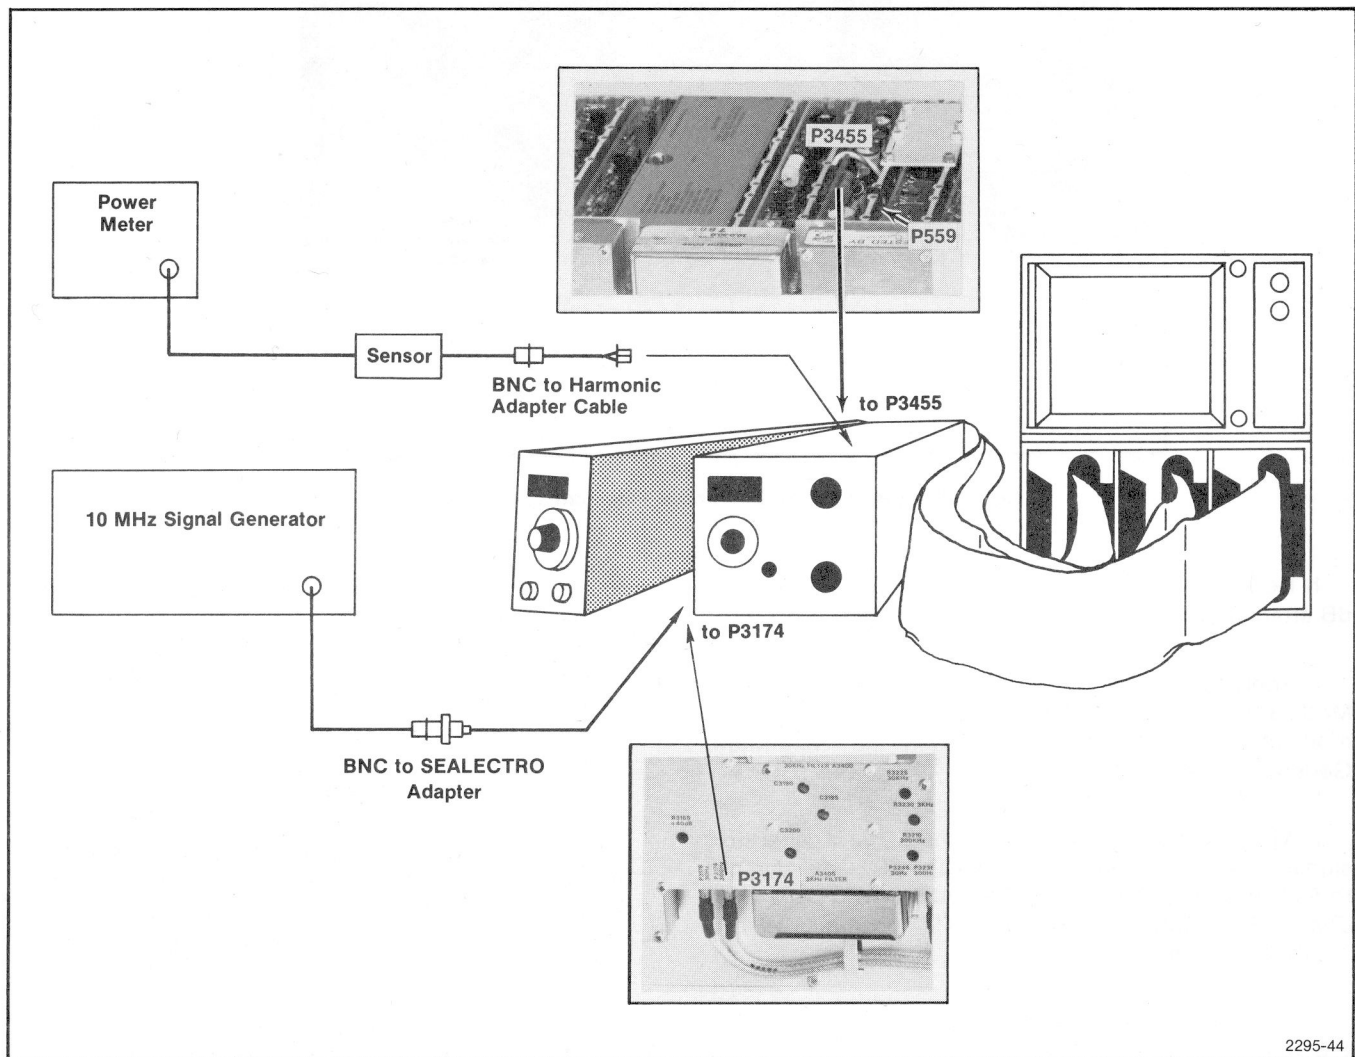

Fig. 4-36. Test Setup for Calibrating VR Circuits.
- a. Test equipment setup is as shown in Fig. 4-36.
c. Disconnect P3455 from the output of the VR Noise Filter (see Fig. 4-36) and connect a power meter (i.e., HP 435A/8489A) to connector J3455. (Use a bnc-to-harmonic adapter such as that described for Adjusting Log Amplifier
module.) Disconnect P3174 (cable is input to 300 Hz Filter, see Fig. 4-36 or 4-37) on the VR module. Apply a 10 MHz, -10 dBm signal, from the signal generator, through a coaxial cable and bnc-to-male Sealelectro adapter to the cable plug, P3174.